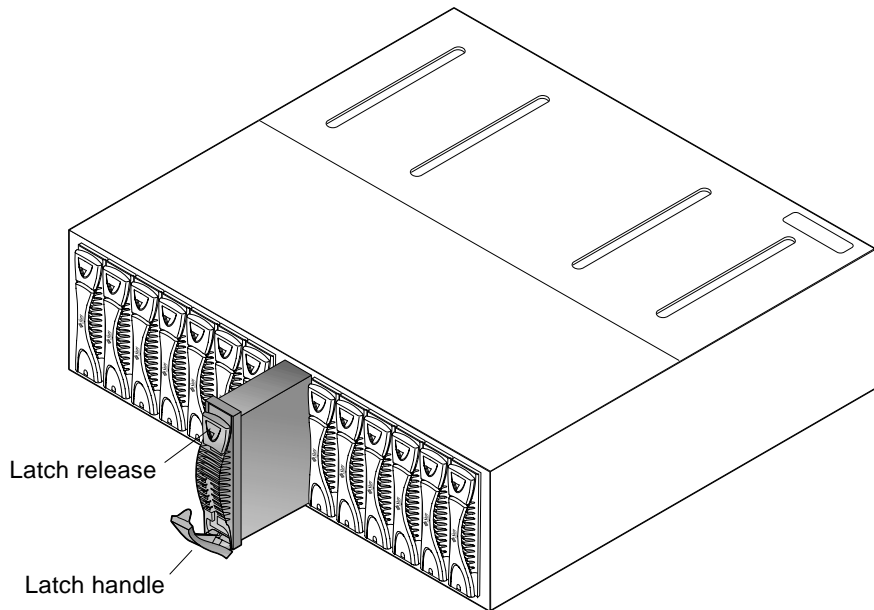

FIGURE 6-8 Removing a Disk Drive
**3. Push down on the latch release to open the drive latch handle (FIGURE 6-8).**